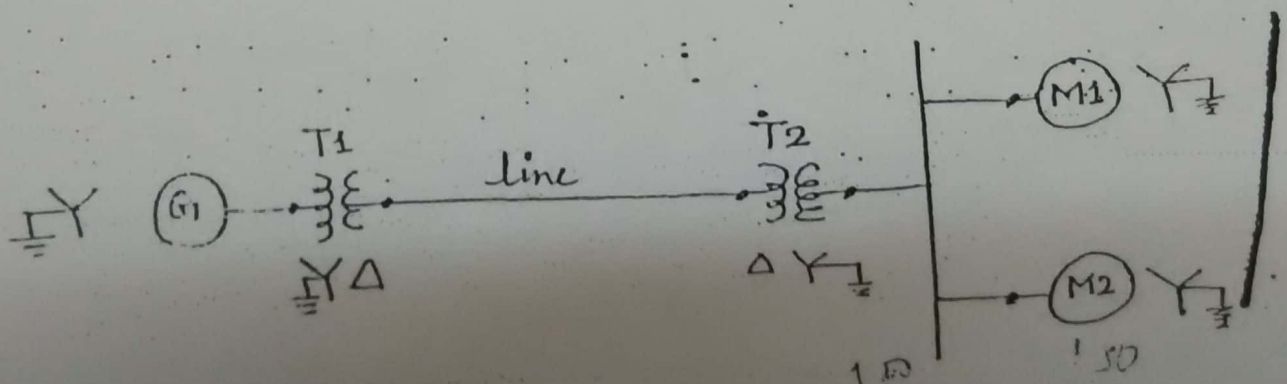

Fig. 1
Q.4- Draw the per unit reactance diagram for the system shown below in Fig. 1. The specifications of the components are given in the table-1. [08]